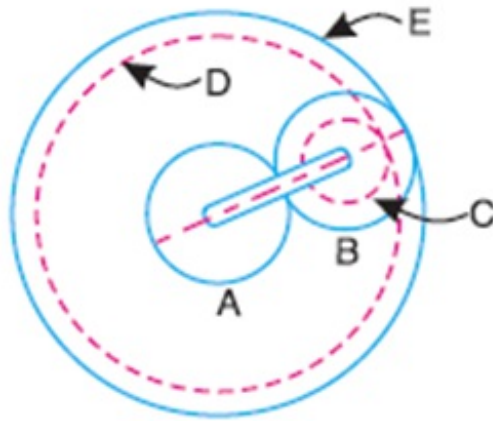

Fig. 6A : Epicyclic Gear Train.
- B) Briefly explain any four different types of gears. (8)
- C) In what way are the angular acceleration of the output link and the coupler found? (2)
- 4) What is Kutzbach's criterion for degree of freedom of plane mechanisms? In what way is Grubler's criterion different from it? (8)
- B) With a neat sketch explain the Geneva mechanism. (5)
- C) Carry out the comparison between the cycloidal and involute tooth profiles of gear. (7)
- 5) What do you mean by inversion of a mechanism? Elaborate on the inversions of double slider crank chain with examples. (8)
- B) A thrust shaft of a ship has 6 collars of 600 mm external diameter and 300mm internal diameter. The total thrust from the propeller is 100 KN. If the coefficient of friction is 0.12 and speed of the engine 90 RPM, find the power absorbed in friction at the thrust block, assuming (a). Uniform pressure; and (b). Uniform wear. (8)
- C) Elaborate on the operation of a reverted gear train, with the aid of neat sketch. (4)
- 6) Fig. 6A. Shows an epicyclic gear train. Pinion A has 15 teeth and is rigidly fixed to the motor shaft. The wheel B has 20 teeth and gears with A and (10)